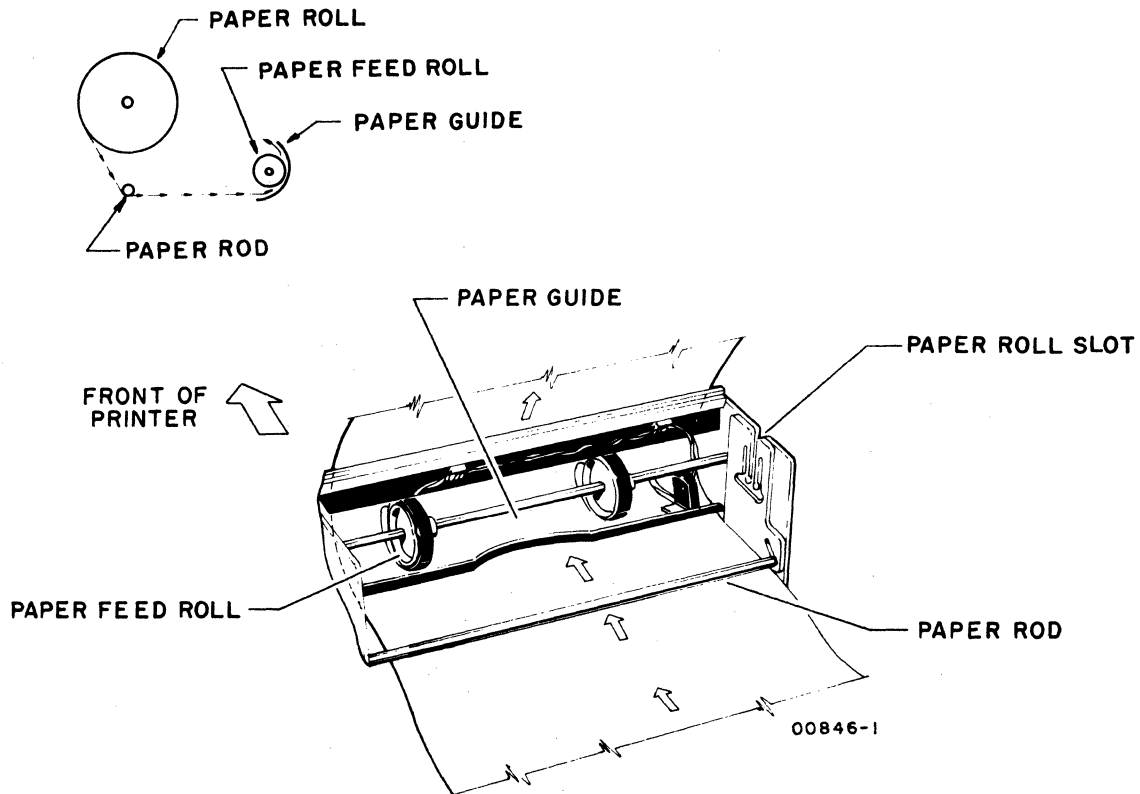

Figure NIP1. Paper Loading, Nonimpact Printer
- 5) Set paper roll behind printer, lift paper rod and thread paper around paper rod and between paper guides (see figure NIP1).